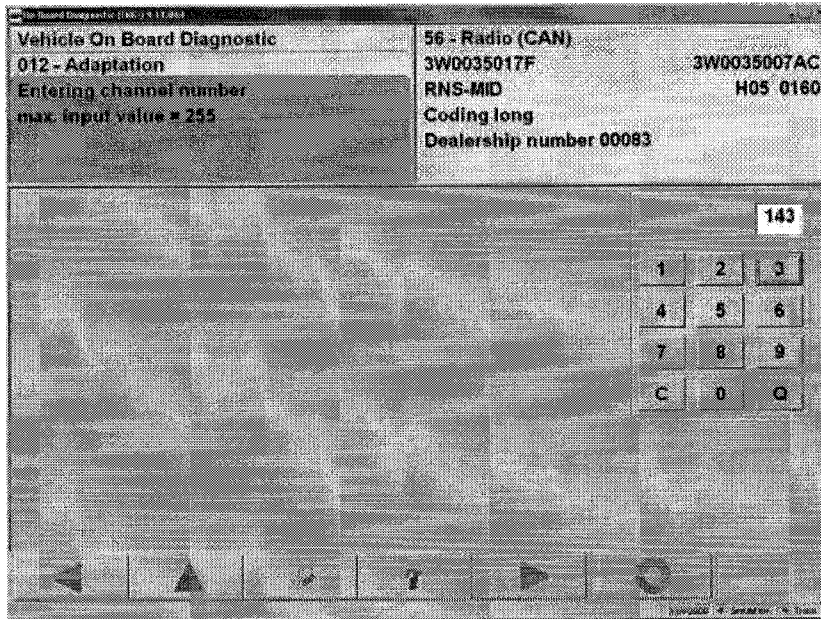

Figure 10
8. Enter channel number 143 followed by Q (see Figure 10)